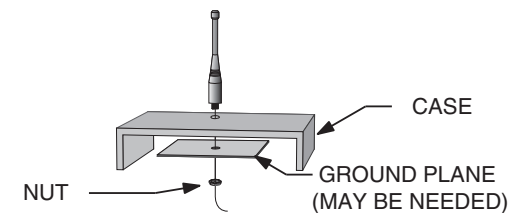

Figure 52: Remote Ground Plane
6. In some applications, it is advantageous to place the module and antenna away from the main equipment (Figure 52). This can avoid interference problems and allows the antenna to be oriented for optimum performance. Always use 50 Ω coax, like RG-174, for the remote feed.